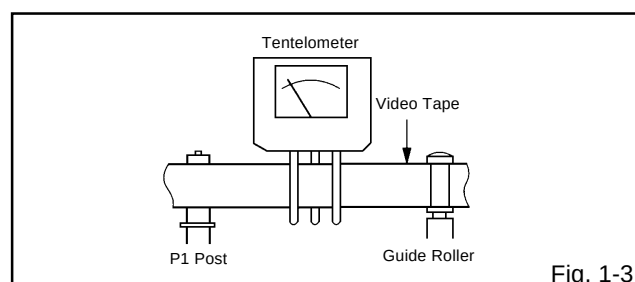

Fig. 1-3
2. Install the tentelometer as shown in **Fig. 1-3**. Confirm that the meter indicates $20 \pm 2\text{gf}$ in the beginning of playback.